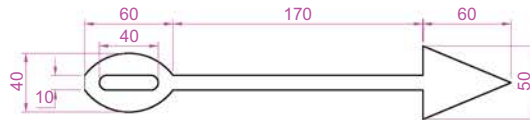

Fig. 4.32 Exercise 10
10. Construct Fig. 4.32 using the **Line** and **Arc** tools. Then, change all widths of lines and arcs to a width of **2** with **Polyline Edit**.